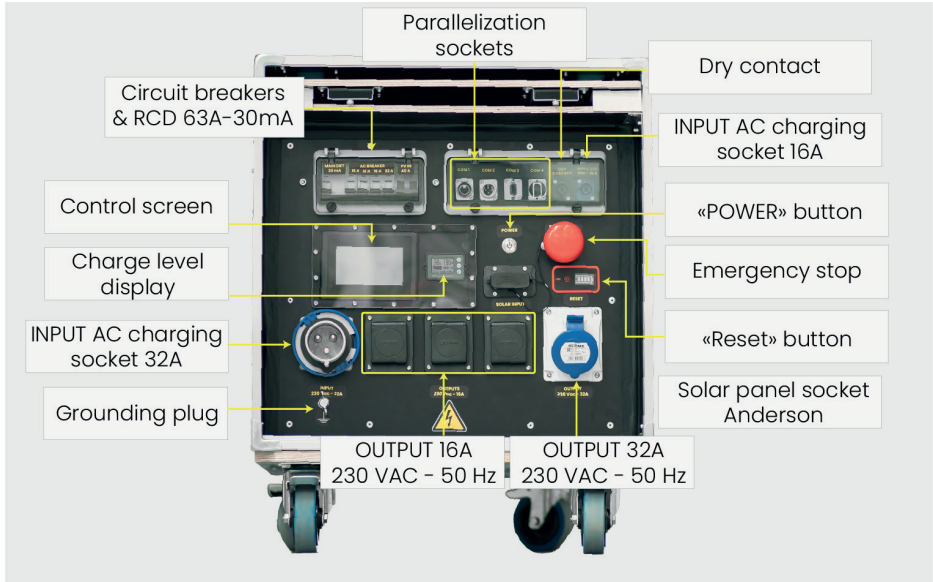
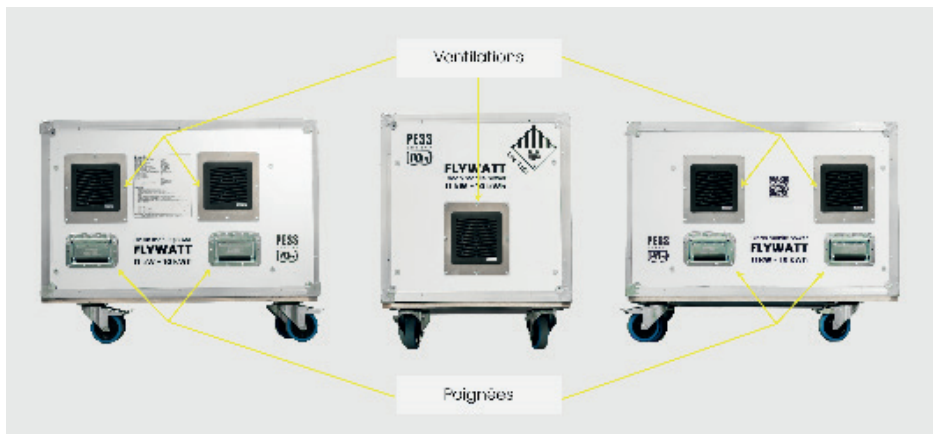

Figure 1 : Front of the device
Figure 2 : Sides and back of the device
- Isolated neutral system (IT). Before use, the device must be earthed using an earth rod (not sold with the device). Make sure you comply with local requirements and applicable regulations when installing the device.
- The photovoltaic (PV) input is a maximum of 5500 W (MPPT from 90 to 450 VDC - 500 Voc) (see §II.2 'Technical characteristics of the device').
- When not in use, the device must be switched off by pressing the 'POWER' button. (see §III.3 'Switching off the appliance' & §II.3 Figure 1 and 2).
- The battery isolating switch (also marked 'Emergency stop' on the device, see §II.3 Figure 1) must only be used in the following cases :
The «human-machine interface» part is located on the front of the device (see Figure 1). ou les prises de parallélisation se trouvent sur les faces latérales (cf. Figure 2).
- Make sure that the air intakes (see §II.3. Figure 2) of the device are not obstructed.
- Connect the device to the ground using an earth stake (see §II.3. Figure 1).
For the location of the buttons, refer to §II.3. Figure 1.
First connect the cable to the «INPUT AC» charging port of the device, then the mains socket (230VAC, 16A or 32A socket) using only the cable supplied with it (see §II.3. Figure 1).
- 1) Lower/position the «PV IN» circuit breaker to «OFF» (see §II.3. Figure 1) before connecting the PV system.
- 3) First connect the Anderson solar panel socket to the device (see §II.3. Figure 1) and then connect your photovoltaic installation.
- Lifting is done only with the help of 4 people using the handles provided for this purpose (see §II.3. Figure 2) or using a forklift when the machine is positioned on a pallet.